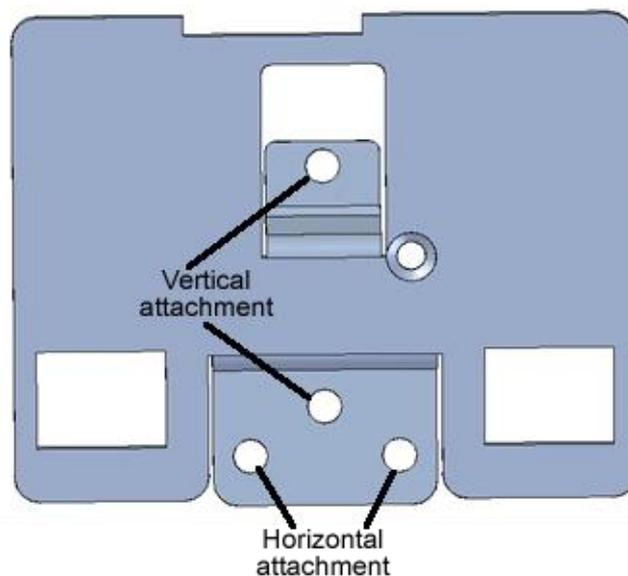

Figure 20: Terminal 155i bracket bolted to a cabinet
2. Mark the two horizontal holes to be drilled in the cabinet, as shown in Figure 20.